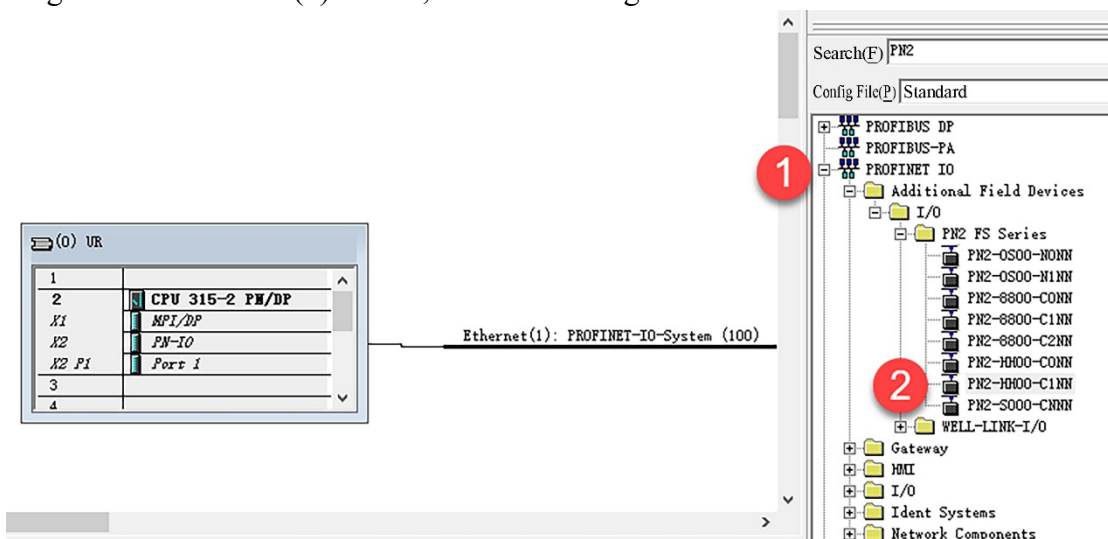

Fig.5-8-26 Add IO Module into Ethernet(1) Subnet
Configure IO Device Station in Ethernet (1). Select PN2-HH00-C1NN on the right and drag it to the Ethernet (1) subnet, as shown in Fig.5-8-26.